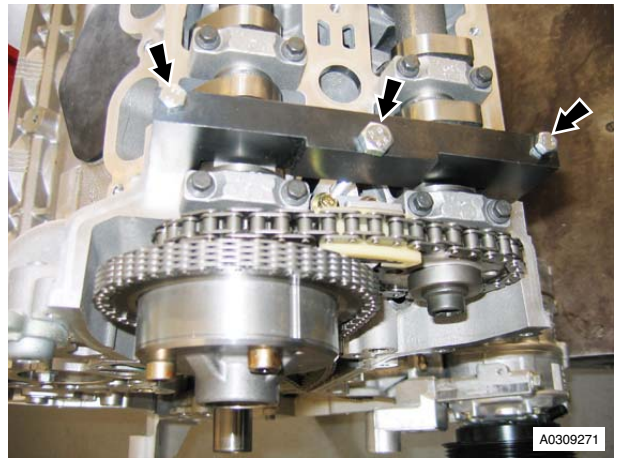

Figure 7
19. Remove bolts (x3) securing tool (303-1215) to cylinder head, remove special tool (see Figure 7).